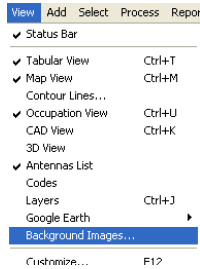

Figure 2-50. Add a Vector/Raster Image as Background
1. Click **View ▶ Background images** (Figure 2-50).